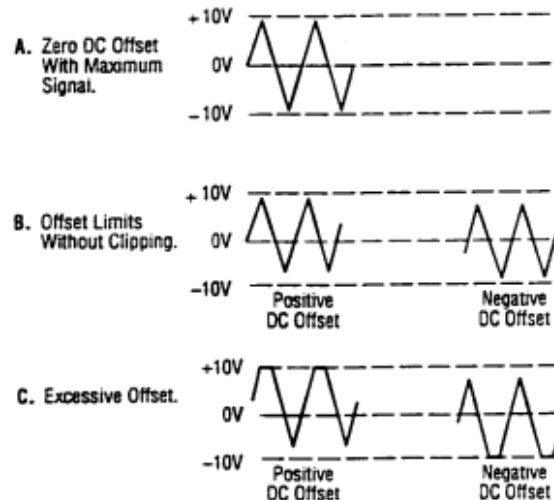

Figure 3. Use of DC OFFSET Control
6. Adjust the amplitude of the output as desired using the **OUTPUT LEVEL** control (4). Rotation of this control varies the amplitude from maximum to 20dB below maximum. An additional attenuation of -20dB is available by pushing in the **-20dB** switch (11). The attenuation factors can be combined for a total of -40dB. The maximum signal level is 10V p-p (into 50 Ω).
7. A superimposed DC component can be added to the output signal by engaging the **DC OFFSET** switch (12) to enable operation of the **DC OFFSET** control (5). Rotation of this control adds a positive or negative DC component to the output signal. The DC component introduced is independent of the **OUTPUT LEVEL** control and can be varied by ± 10 volts open circuited or ± 5 volts into 50Ω . The DC Offset does not affect the **TTL/CMOS** output jack. The effect of DC OFFSET is shown in Fig. 3.
6. Remember that the output signal swing of the generator is limited to ± 10 volts open circuited or ± 5 volts into 50Ω , and applies to the combined peak-to-peak signal and DC offset. Clipping occurs slightly above these levels. Fig. 3 illustrates the various operating conditions encountered when using the DC offset. If the desired output signal is large or if a large DC offset is required, an oscilloscope should be used to make sure that the desired signal is obtained without undesirable clipping.